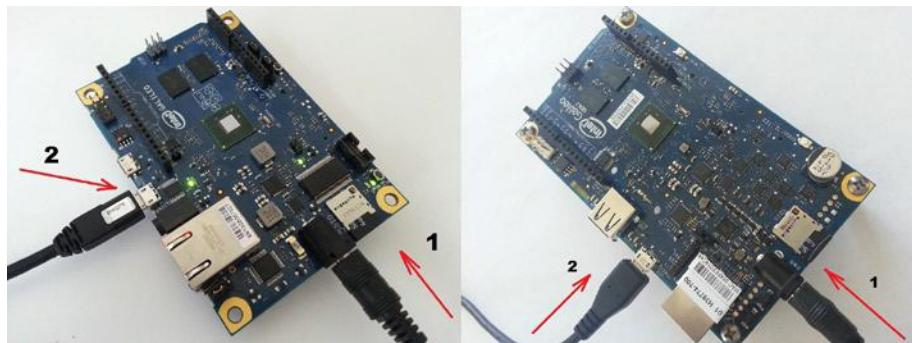

Figure 3-2. Intel Galileo Generation 1 (left) and Intel Galileo Generation 2 (right)
- Check Figure 3-2 (left) if you have a Intel Galileo Generation 1. *Always connect the 5V power supply (1) before the USB cable on client port (2) to avoid hardware damages.*
- Check Figure 3-2 (right) if you have a Intel Galileo Generation 2. *Always connect the power supply (1) before the USB cable on client port (2) to avoid hardware damages. Remember, the Intel Galileo Gen 2 power supply must be between 7V and 12V DC. You cannot use 5V DC.*